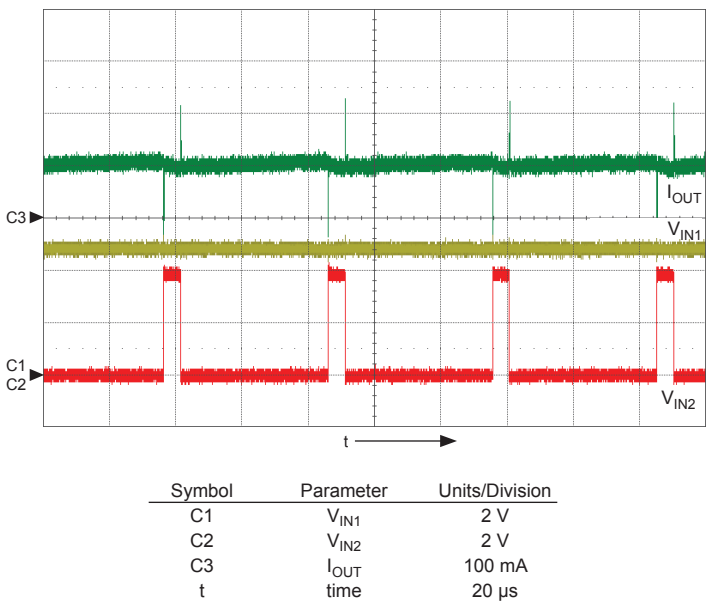

Figure 1. Enable chopping. Forward direction, output duty cycle 90%.
**Enable Chopping** By PWMing the logic inputs between enable and brake modes, the current in the motor winding can be controlled. It is accomplished by holding one input high while PWMing the other input. During the on-cycle, current flows in the bridge consistent with the direction programmed on the input pins. During the off-cycle, the A3908 enters brake mode. Enable chopping is illustrated in figure 1.